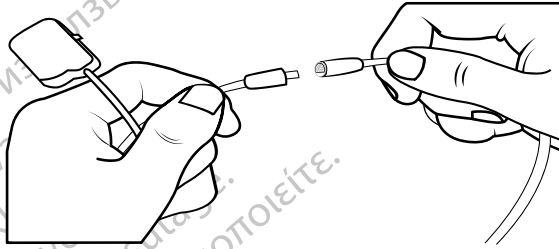

Figure 14. 1x8 OR Cables and Extension.
1. Attach the OR Cable Extension to the OR Cable (Figure 14).